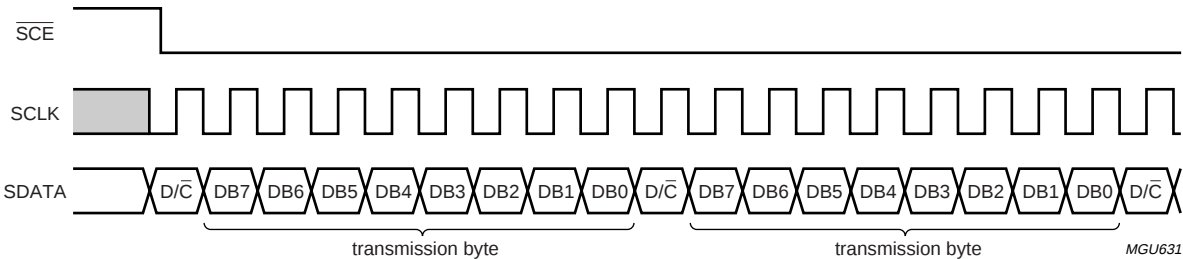

Fig.22 Serial interface (3-line), write mode - transmission of several bytes.
- If $\overline{SCE}$ stays LOW after the last bit of a command/data byte, the serial interface is ready for the $\overline{D/C}$ -bit of the next byte at the next rising edge of SCLK (see Fig.22).